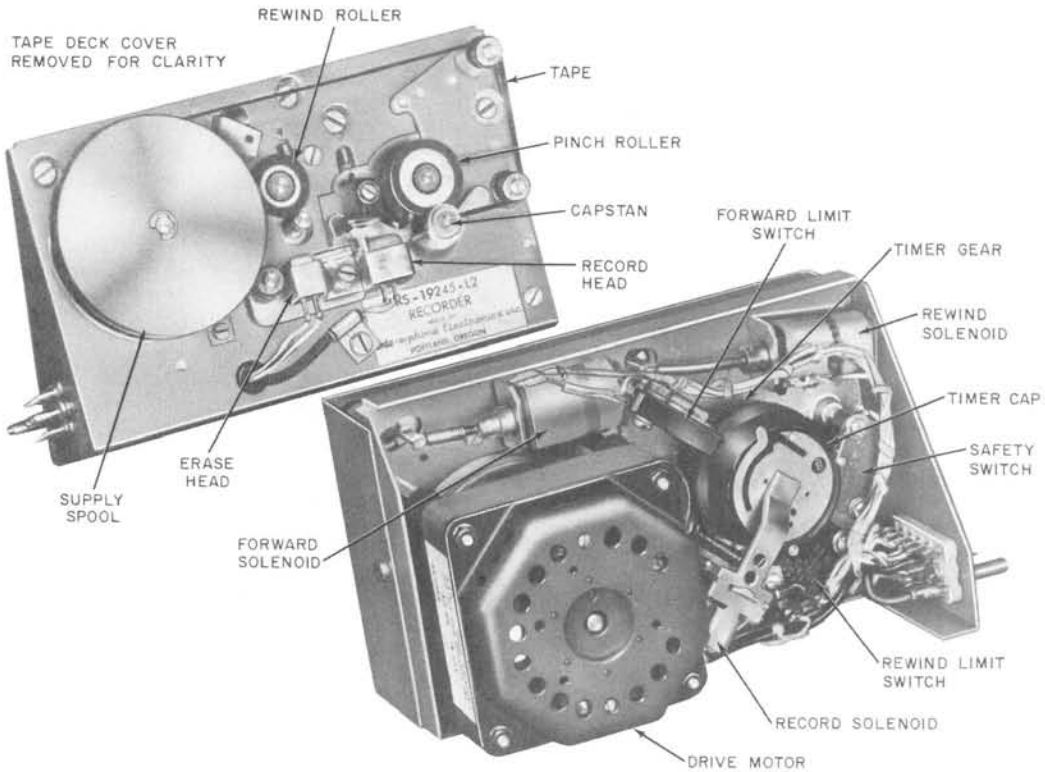

Fig. 8—KS-19245, List 2 Recorder Front and Rear Views
- 16.02 Refer to Fig. 8 and 9 for reference with operational procedure.